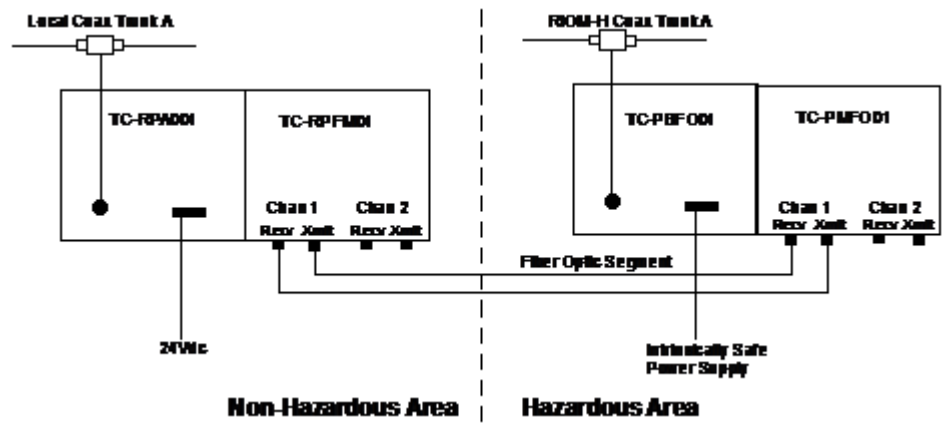

Figure 23: Typical Repeater/Fiber hub cabling for non-redundant ControlNet media.
- 4 Refer to Figures 23, 24, and 25 for examples of Repeater/Fiber hub cabling.